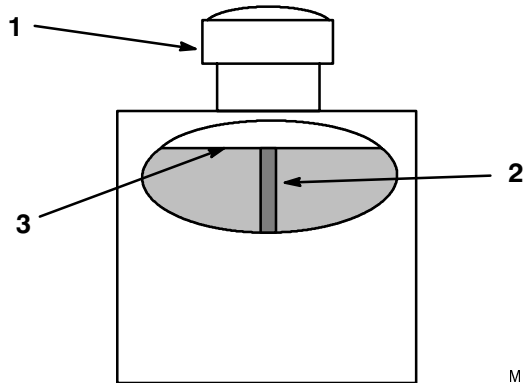

Figure 37
2. Clean area around filler neck of hydraulic tank (Fig. 37).
3. Remove cap from filler neck. Look inside to check if there is fluid in the reservoir (Fig. 37).
Note: Fluid level should be to the top of the baffle when fluid is warm (Fig. 37).